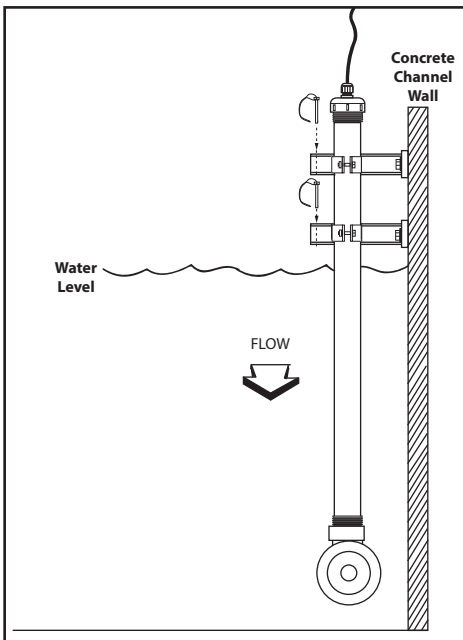

FIG. 15
- H) Remove pins from brackets. See FIG. 15